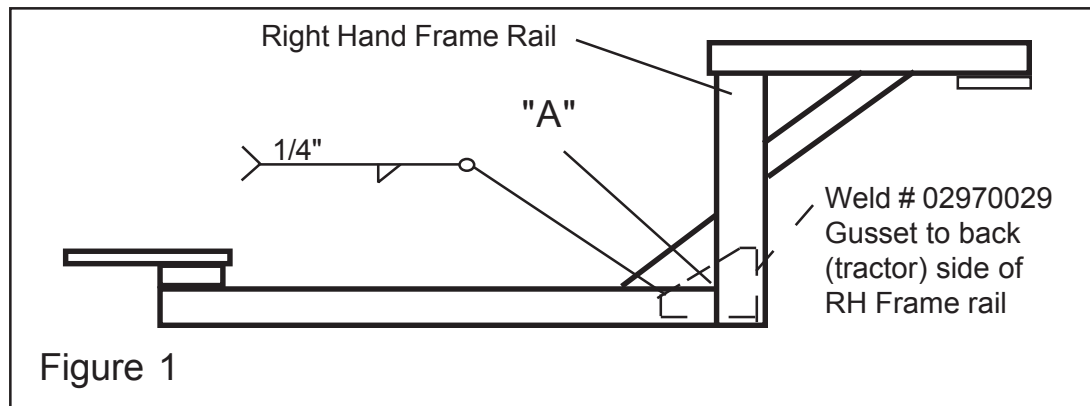

Figure 1
Repair Procedures for A-Boom RH Frame Rails cracking at Juncture of rear Horizontal Rail and Vertical Tube. If Cracks appear in the weld at Point "A" in Figure 1 use the following procedure to repair the rail.
5. Position the Gusset on the inside of the Right Hand frame rail as shown in figure 1. Weld all around with 1/4" fillet weld.